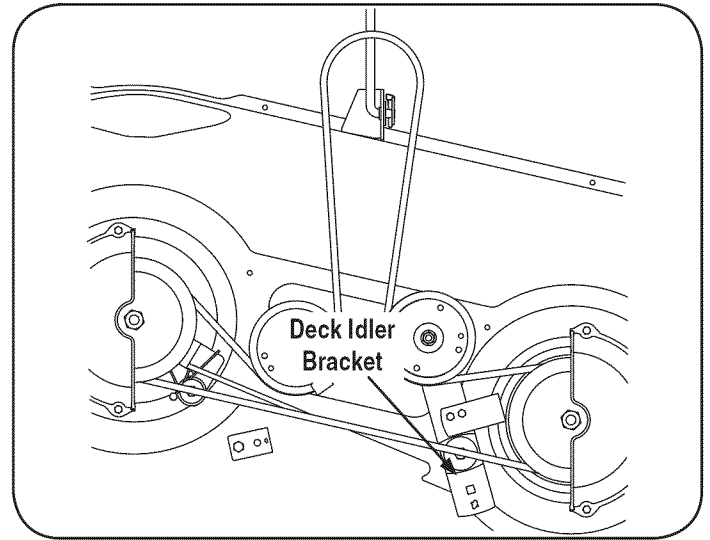

Figure 11
**NOTE:** If there is too much tension on the belt for it to be easily removed from the electric PTO clutch, carefully insert a 3/8" drive ratchet wrench (set to *loosen*) into the square hole found in the deck idler bracket and pivot it toward the tractor's left side to relieve tension on the belt. See Figure 11.